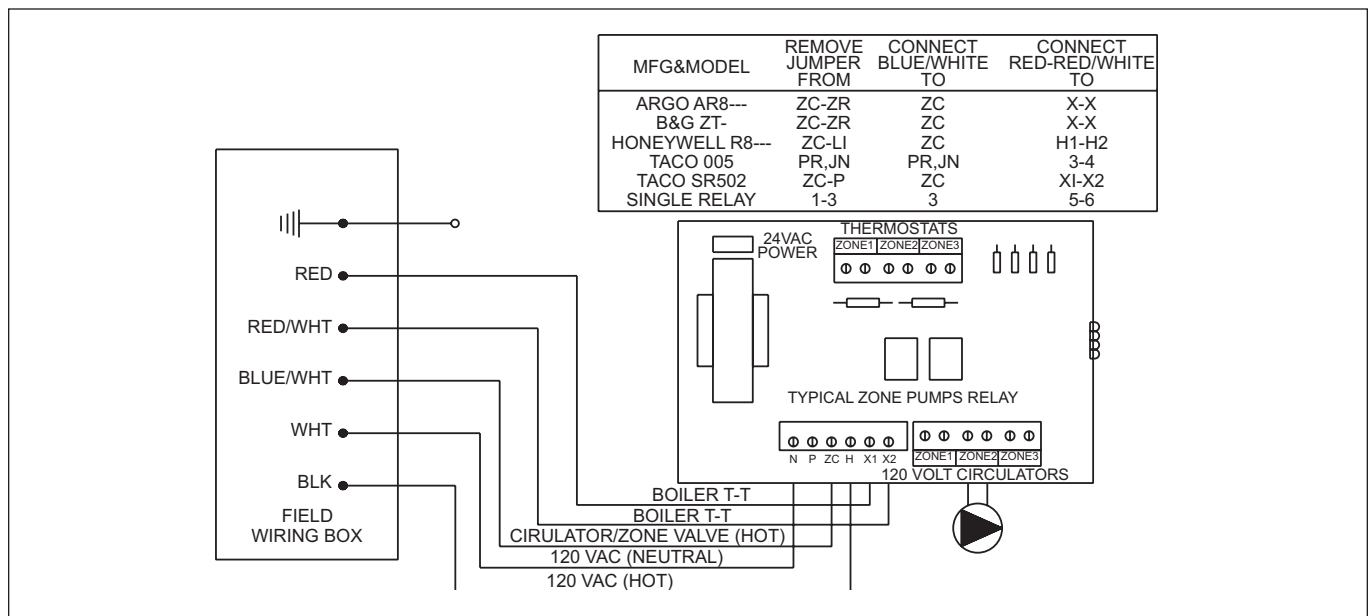

Figure 28. Multiple Zones with Circulators and Room Thermostats.
- Multi zone/Multi-relay-circulator Installations: Multiple circulators must not exceed 5 amps total when connected to blue wire (see Figure 28).